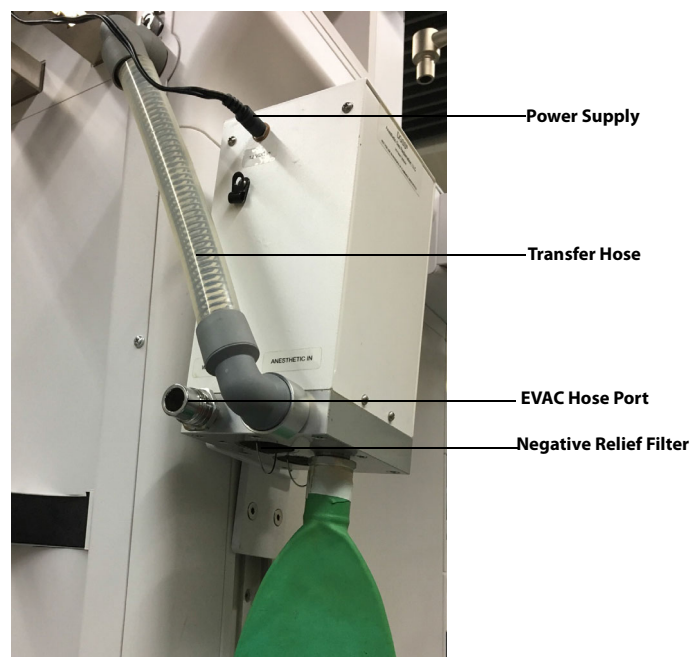

FIGURE 7-28 Transfer Hose Removal
1. Disconnect the power supply and the EVAC hose from the DGSS. (See FIGURE 7-28.)